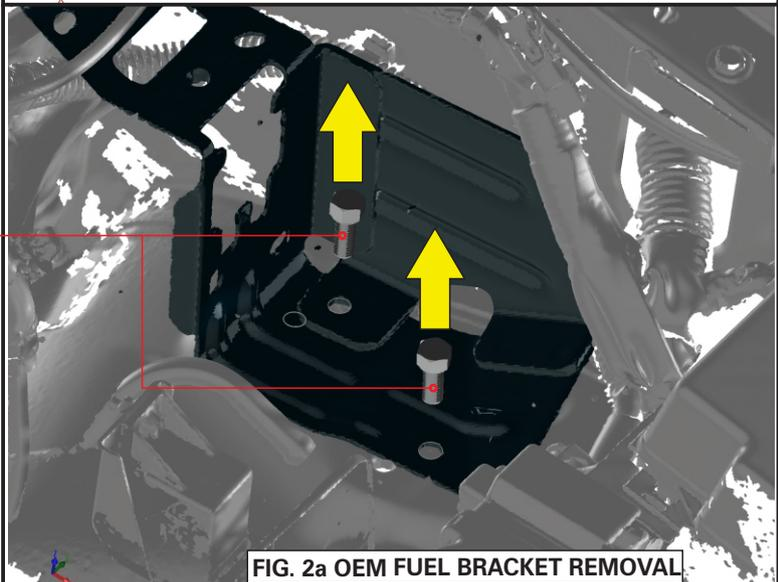

FIG. 2a OEM FUEL BRACKET REMOVAL
4. Unscrew the 2 x OEM M8 bolts shown in Fig. 2a. Ensure you hold onto these M8 bolts, as you will be using these to fit the FB9810FC bracket later.